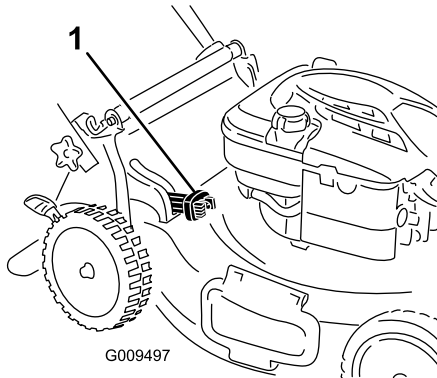

Figure 20
- For bagging the grass and leaf clippings, press the button on the bag-on-demand lever, and move the lever forward until the button on the lever pops up (Figure 20).